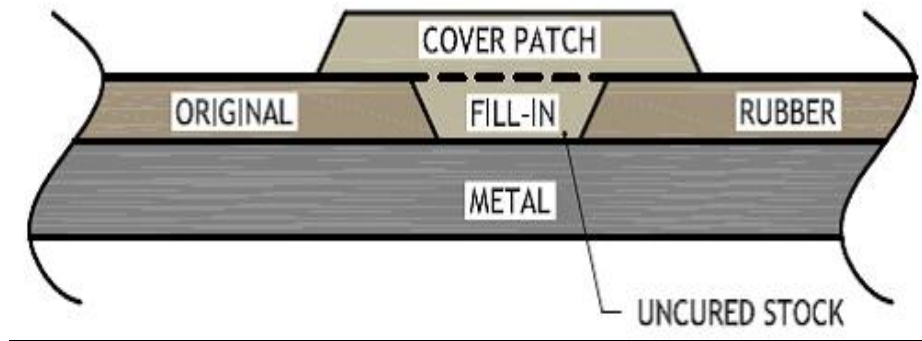

Fig. 11-2 Cover patch with fill-in (inlay) repair
- 2.1 Use rubber stocks, primers and cements indicated on Technical Data Sheet for repair. See Fig. 11-2 for details.